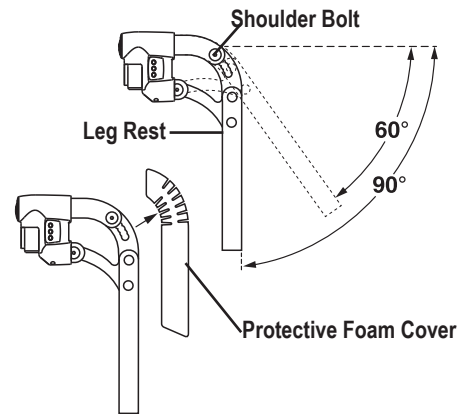

Figure 5. Swing-away 60°–90° Leg Rests
NOTE: All front rigging angles are referenced from a plane parallel to the seat pan of power chair and extended toward the front of the unit. For more detail, see figure 5.
1. Remove protective foam cover. **See figure 5.**
2. Remove shoulder bolt. **See figure 5.**
4. Reinstall the shoulder bolt. **See figure 5.**